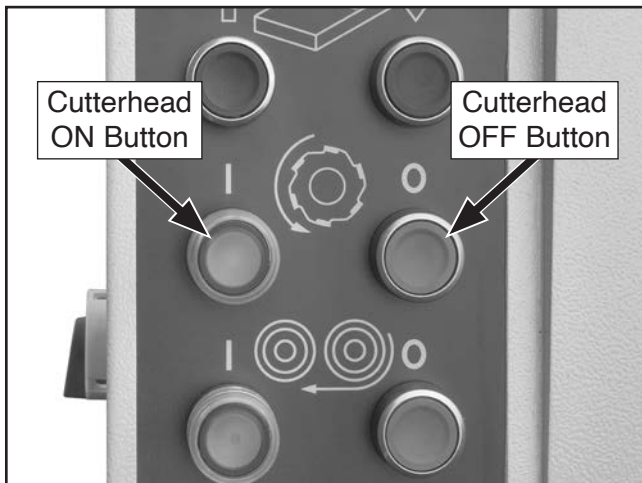

Figure 43. Location of cutterhead motor ON and OFF buttons.
9. Press cutterhead motor ON button (see **Figure 43**) to turn cutterhead motor **ON**. Verify motor starts up and runs smoothly without any unusual vibrations or noises.
10. Press cutterhead motor OFF button (see **Figure 43**) to turn cutterhead motor **OFF**. Ensure cutterhead motor comes to a complete stop before proceeding to next steps.